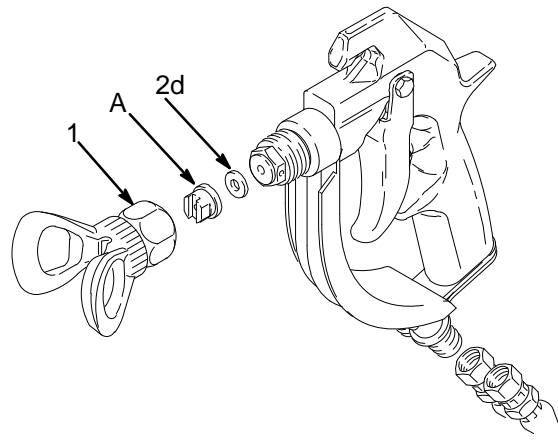

Fig. 2
ALWAYS have the tip guard in place on the spray gun while spraying. The tip guard alerts you to the fluid injection hazard and helps reduce, but does not prevent, the risk of accidentally placing your fingers or any part of your body close to the spray tip. See Fig. 2.
Always have the trigger guard in place on the gun when spraying to reduce the risk of accidentally triggering the gun if it is dropped or bumped. The fluid housing and heat shield act as a trigger guard for this gun. See Fig. 2.
4. Unscrew the tip guard (1) and install the tip (A) and the gasket (2d) in the nut of the tip guard. Screw the assembly firmly onto the gun. Tighten the assembly with a wrench. See Fig. 2.